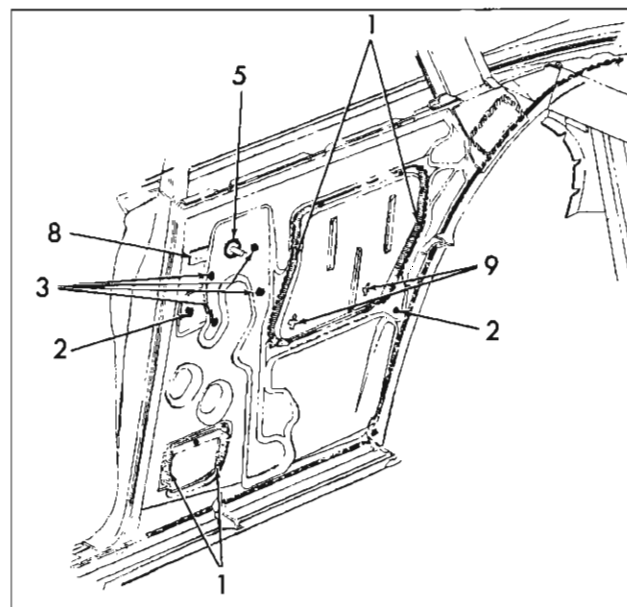

Fig. 66—Rear Quarter Inner Panel Sealing—11 Styles—Manual
- "11" styles (Manual)-Figure 66